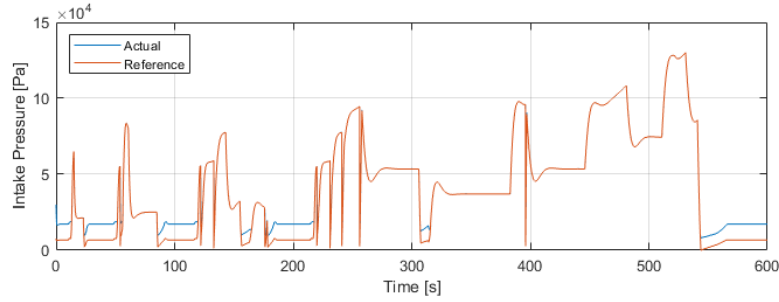

Figure 12: Intake manifold pressure and reference with feedforward and feedback.
- Use the values given in the script as a starting point. Simulate while inspecting the reference and actual pressures. Tune the controller parameters until you are satisfied with the tracking performance. Compare your results to Figures 12 and 13.